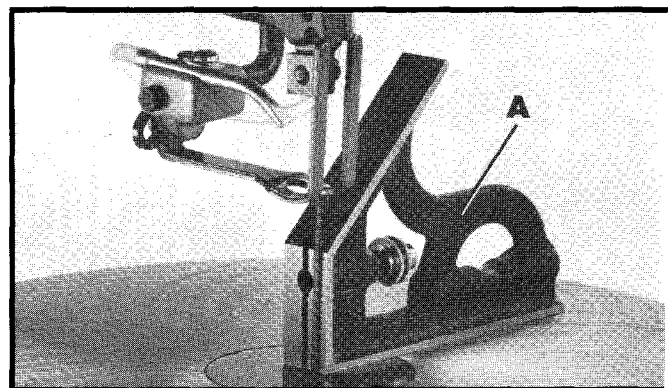

Fig. 33
2. Using a square (A) Fig. 33, check to see if the table is 90 degrees to the saw blade, as shown.